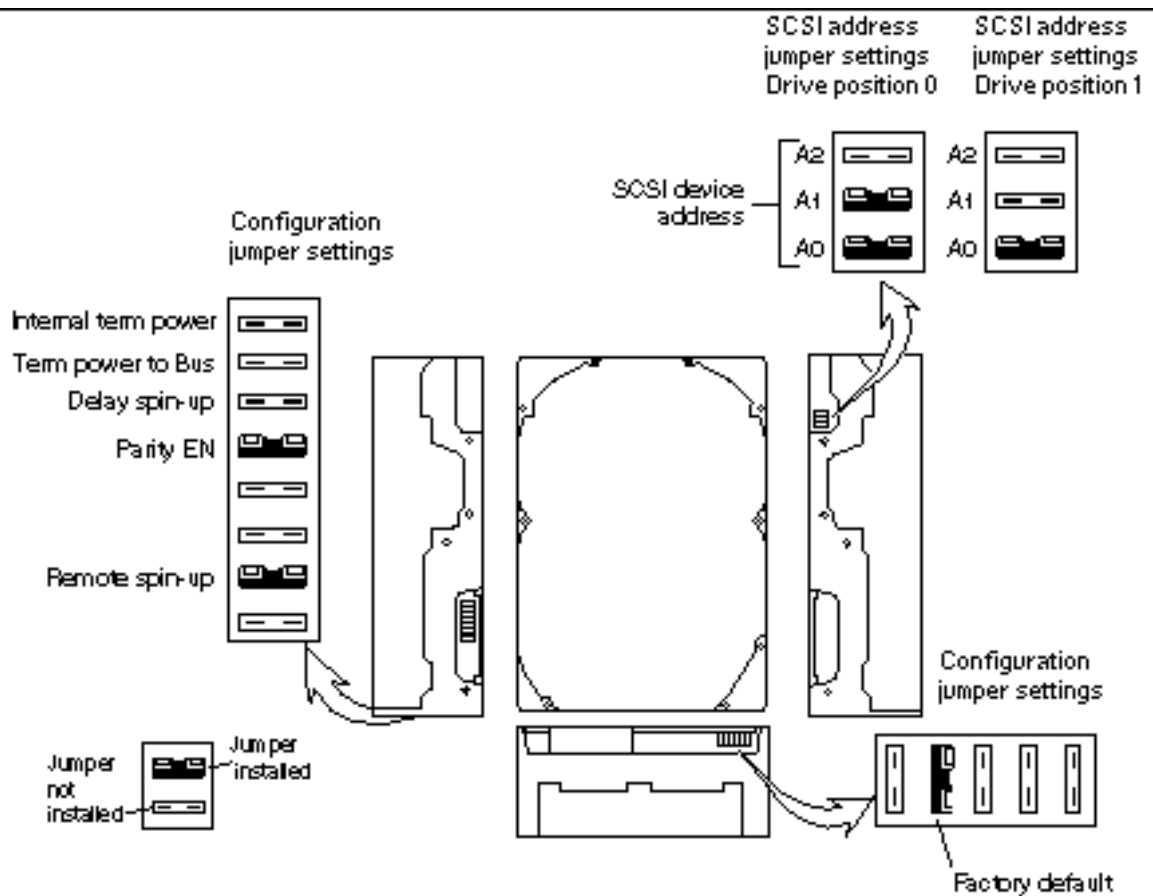

Figure 12-5 SCSI Address and Configuration Jumper Settings for 424-Mbyte Drive Position 0 and 1
2. **Compare the SCSI device ID and configuration jumper settings to Figure 12-5. Set the jumper settings to match Figure 12-5 using needlenose pliers.**